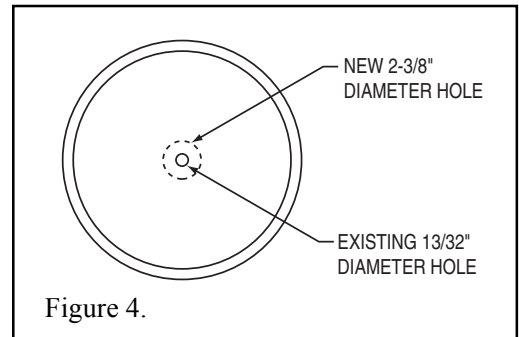

Figure 4.
5. For FNS (Fiberglass) tanks, use a 2-3/8 in. diameter hole saw to carefully cut a larger hole in the tank top. The 2-3/8 in. diameter hole should be centered on the original 13/32 in. diameter hole as shown in Figure 4.
7. For NS (Stainless Steel) tanks, a good quality steel punch must be used to make the larger hole. It may be necessary to use 2 punches; (1) to enlarge the hole from 13/32 in. diameter to accommodate a larger mandrel for the 2-3/8 in. diameter punch and (1) 2-3/8 in. diameter punch. The punches must be capable of punching through .060 thick steel. Follow punch in making the larger hole. The 2-3/8 in. diameter hole should be centered on the original 13/32 in. diameter hole as shown in figure 4. The final hole size should be 2-3/8 in. diameter minimum and 2-13/32 in. diameter maximum. Remove any metal burrs in the hole with a file.